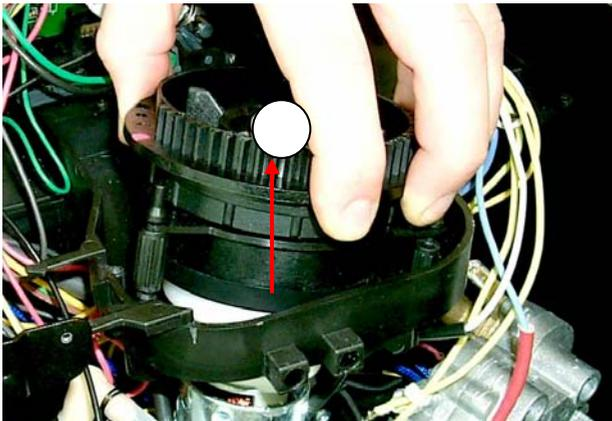

Fig. 26
- e) Pull grinding motor out of its fitting (see Fig. 26).
f) Unscrew the nine screws (1) of the gear cover and remove cover.